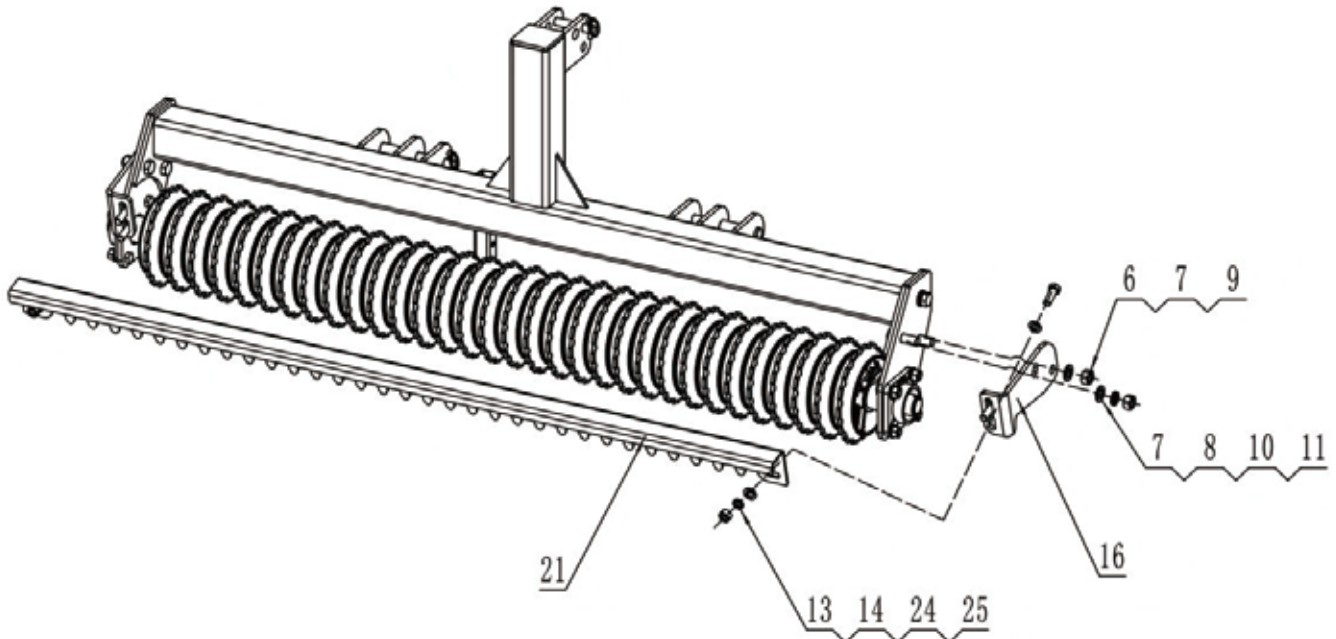

FIG. 1
1. Scraper Bar Assembly (Refer to Figure 1)